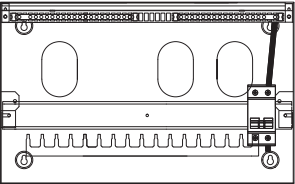
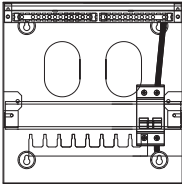

Fig 1
Fig 2
- 3.1 Cut and dress the main incoming cables and earth conductor. Fit them into the appropriate terminals (Fig.1 and Fig.2)